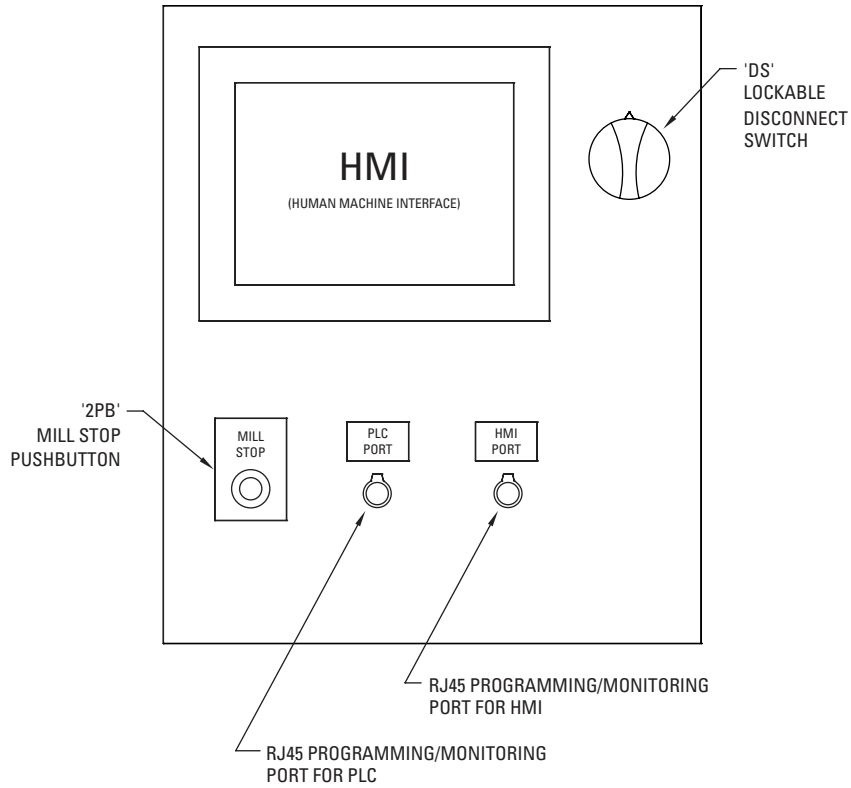
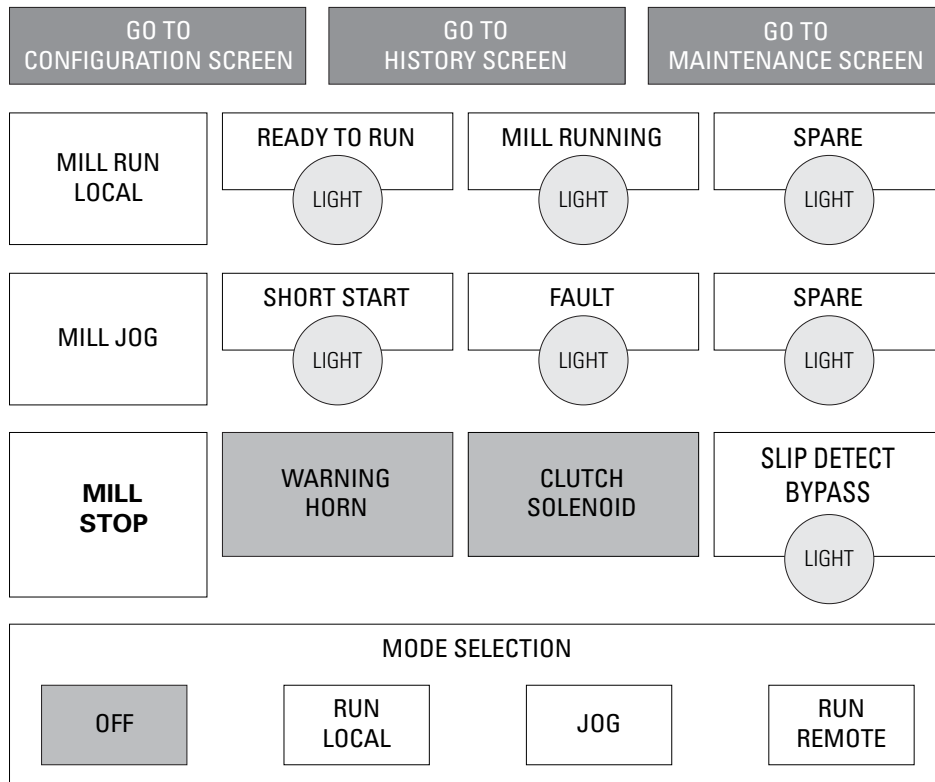

Figure 4
Figure 5
Refer to Figure 4 for references to the panel door, refer to Figures 5 through 8 for references to the HMI screens.
5.1.1 All indicating lights for normal operation are on the operating screen of the HMI. Refer to Figure 5.